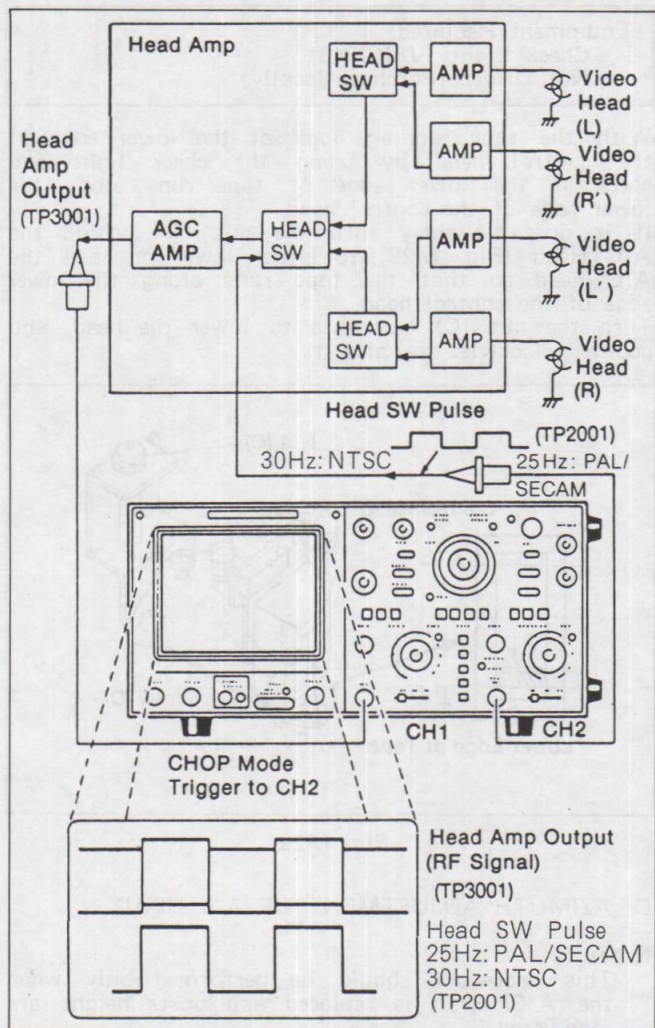

Fig. M21 Connection of Oscilloscope
And connect the oscilloscope to the output of the Head Amp as shown in Fig. M21.
To get a stable waveform of the Head Amp output on the oscilloscope, use the head switching pulse as a triggering signal as shown in Fig. M21.
2. Connect the oscilloscope to the output of Head Amp.(Refer to Fig. M21)